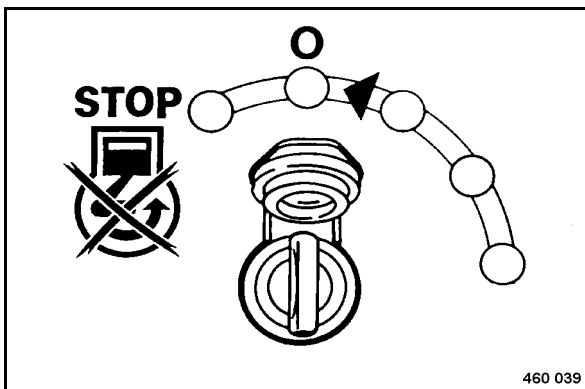

Fig. 71
- Turn the start switch (Fig. 71) to position "O" and pull out the ignition key.